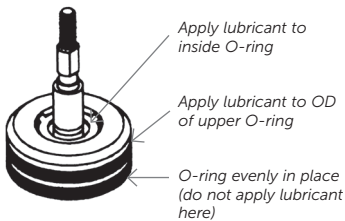

Figure 3.
2. Begin assembly by applying lubricant (S1) on the diaphragm/retainer assembly (P7) O-rings. (See Figure 3.)
3. Make sure the O-ring between the diaphragm and retainer is evenly in place (see Figure 3), and then install the diaphragm/retainer assembly (P7) in the valve body (P16) and push the retainer all the way down.